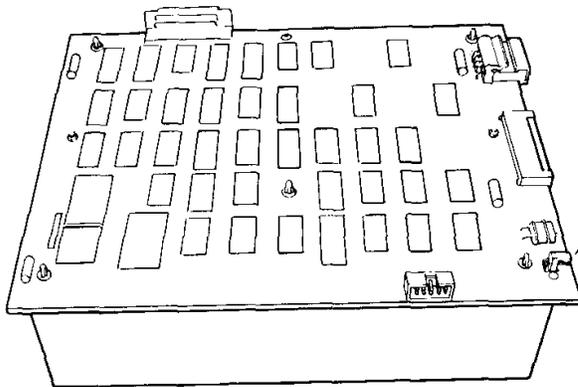
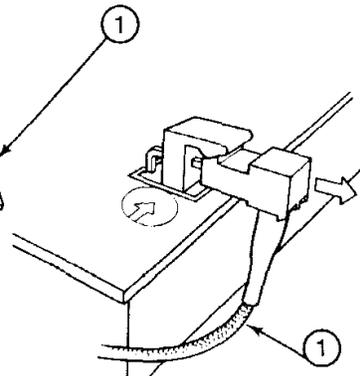

FIGURE 21
FIGURE 22
42. Attach the LED to the connector on the controller board. (Figure 21, Item 1). Make sure the LED cable exits down and away from the board. (Figure 22, Item 1).